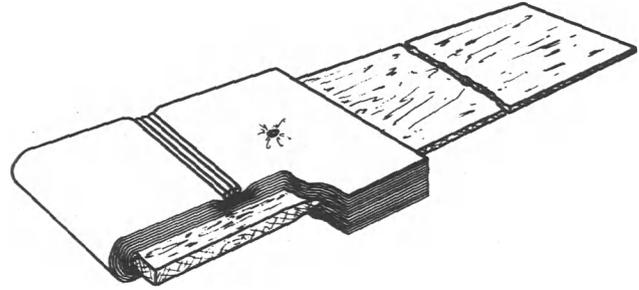

Fig. 3 - Typical Commutator Polisher
(1) A bronze colored, highly polished commutator is very desirable and should not be mistaken for a burned commutator. A commutator in this condition, which is smooth and giving satisfactory commutation, should be left alone.
(2) If oily, the commutators should be cleaned, with the machine stopped, by rubbing with a cleaning cloth moistened with petroleum spirits, followed by a dry cloth. After being so cleaned, they may be polished, with the machine running, by the use of a commutator polisher.
(3) The polisher should be made up locally and consists of a hardwood stick covered at one end for approximately 3" with several layers (three or four are suggested) of hard-woven canvas or duck (8 oz.) suitably secured with a rivet or bolt. The following approximate dimensions are suggested. Length 10", width 1/2", thickness 3/16". They may be modified as found convenient. See Fig. 3. The polisher is applied "end on" with heavy pressure to remove surface deposits and to produce a polish on the surface of the metal. When the outer layers become too dirty for effective use, they can be cut away, successively, near the cord binding and removed.
(4) If the commutators show tarnished spots after cleaning and polishing, they should be smoothed with sandpaper.
(5) Never allow commutators to become more than slightly rough before